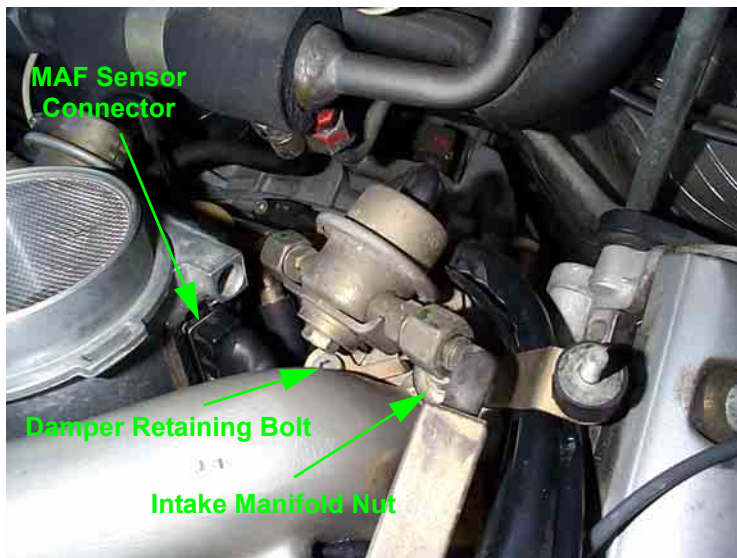

FIGURE 8
- a. Examine the intake bolt on the driver's side closest to the firewall. In some cases the fuel pressure damper may block access to this bolt. If access is blocked, loosen the Allen bolt that retains the damper. The "speed wrench" from the 928's tool kit is the perfect tool for this. Other more common tools may be too large. See *Figure 8*.
- i. Remove the Mass-Air Sensor. Disconnect the MAS's harness connector. *See Figure 8.* You may need to use one or two jeweler's screwdrivers to move the spring wire that retains the connector. On a GTS the connector is much-improved; the spring wire can be pressed down to disengage the connector.